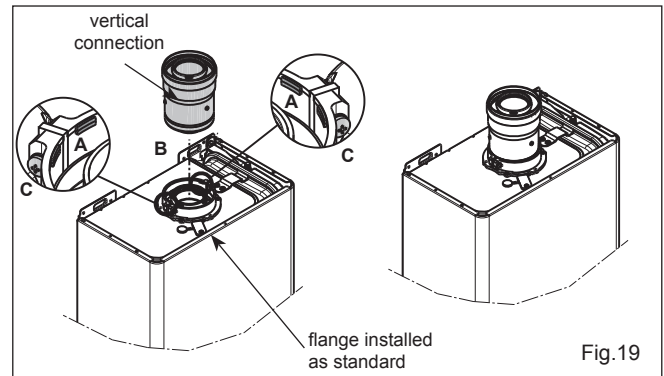

Fig.19
NOTE: The appliance incorporates a 'click-fit' flue connection (see fig. 19). Ensure that both screws 'C' (fig. 12) on the 'click-fit' have been slackened off. Ensure that the connector is correctly aligned with the 'click-fit' and insert it into the 'click-fit' until it clicks into position (this is when the tabs at points 'A' are located in the groove of the vertical flue connector - see fig. 19). Both screws (C) should now be tightened.